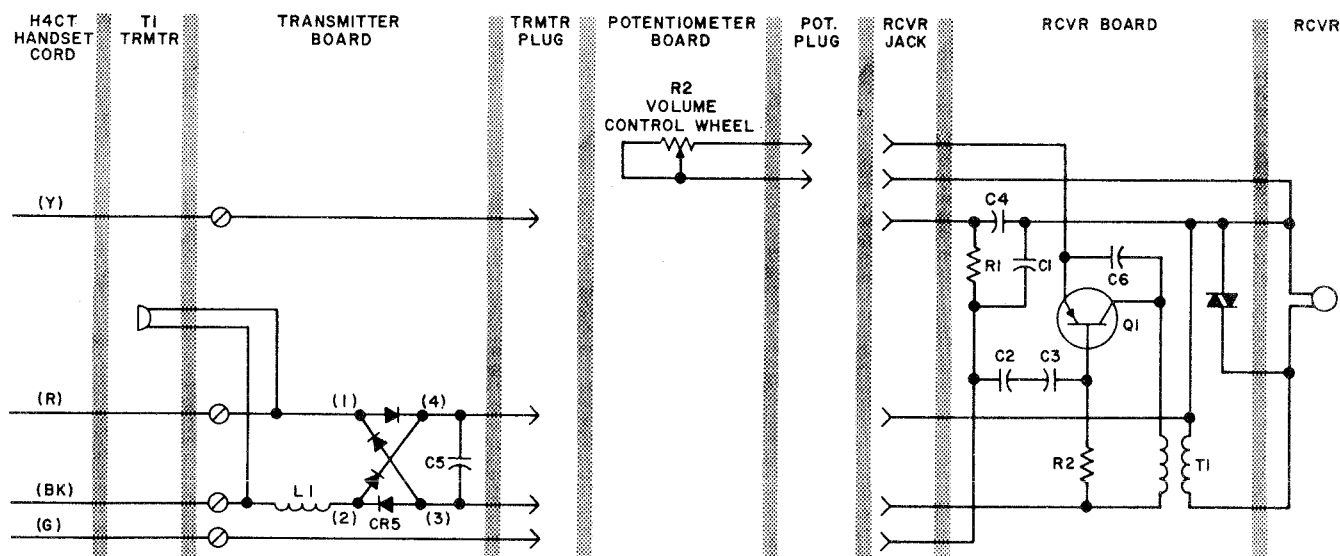

Fig. 6 — G6AR Handset (MD), Schematic
5.01 Fig. 6 through 10 show schematic diagrams of the amplifier type handsets.